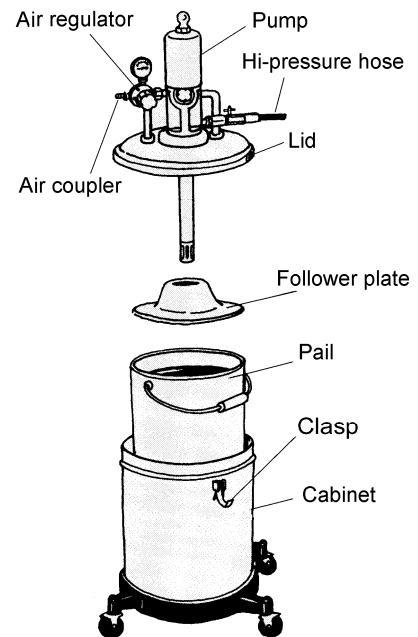

Fig. 2
5) Place the follower plate on the grease horizontally and push it down by rubbing it with a hand until the grease comes out from the packing in the middle of the plate. (Fig. 2)